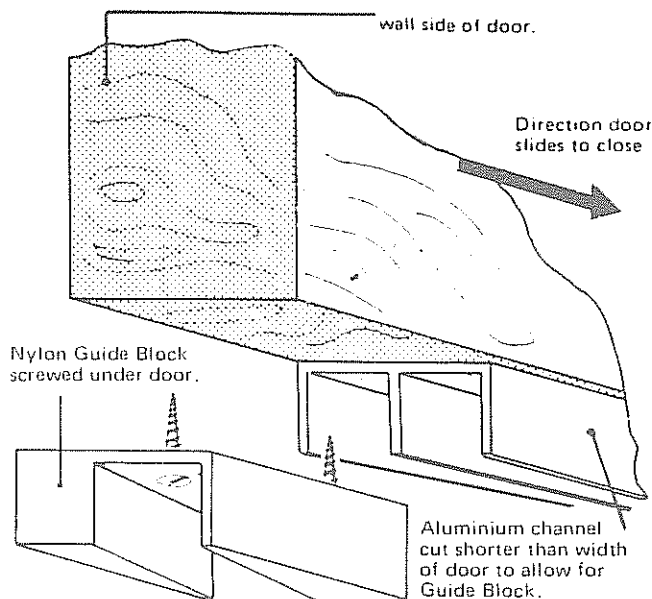

Fig 2
- 2 Scew aluminium channel to the bottom of the door leaving exactly 2" (50mm) underlap at the end of the door opposite to the opening when the door is in the open position. This 2" (50mm) space is for the 2" (50mm) guide block to be screwed onto the door exactly in line with the channel. There are two guide blocks—one left hand and one right hand. Only one of these is used depending on which way the door is opened (Fig 2). The other can be thrown away as it is not required. Saw off the other end of the channel flush with the end of the door.